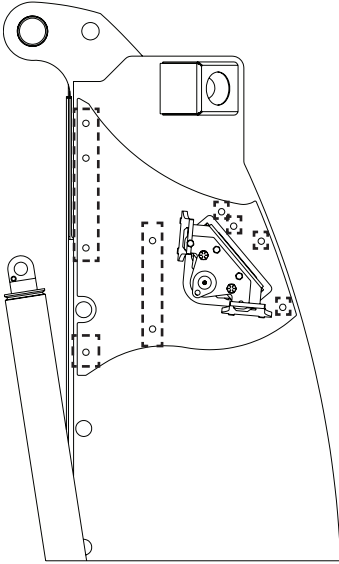

Figure 9
6. Mark these ten (10) bolt locations and then drill all ten to 17/32" diameter (1.531Ø) (Figure 9).